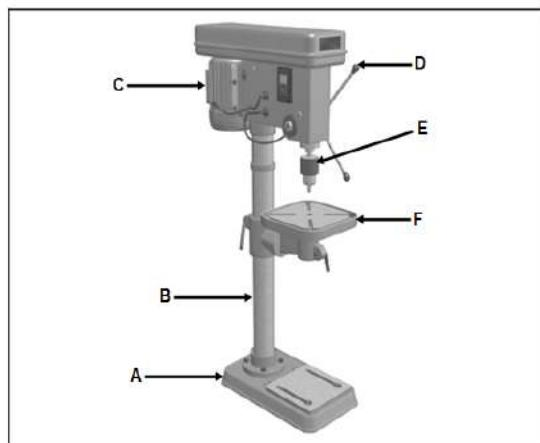

FIGURE 3.1
3.1 FIGURE 3.1 below shows a type of cutting machine. Answer the questions that follow.
3.1.1 Identify the machine in FIGURE 3.1 above. (1)